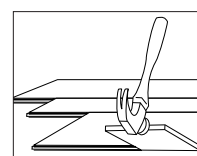

Figure 11
- It may be necessary to align the product with a cut-off piece of scrap as shown (Figure 11 – keep scrap angle low to avoid edge damage).